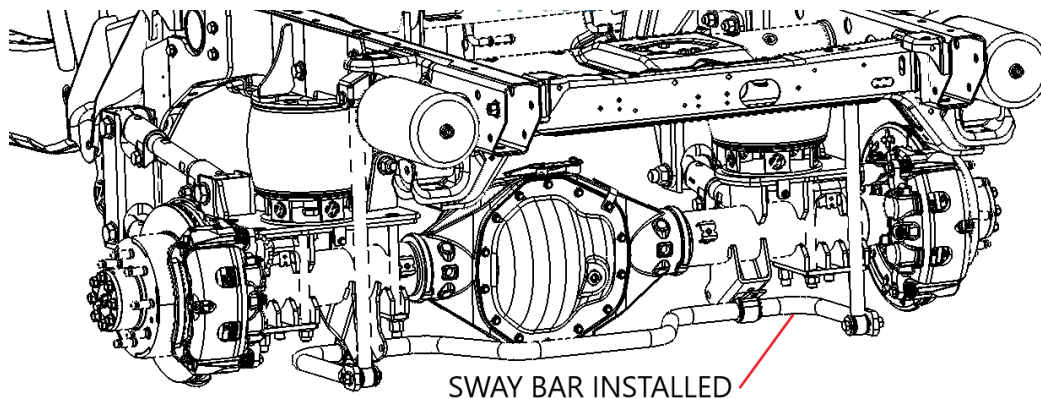

Figure 28
- 17:** Locate the sway bar P/N 80259, mounting clamps P/N 80271, sway bar bushings P/N 80256, and sway bar end links (**P/N 19238 for stock height, P/N 10006911 for +2"**). The sway bar fastens to the axle in the factory location, if equipped, on the shock mounts. If your truck did not come with a factory sway bar, you will need to tap the factory weld nuts to 3/8"-24 to mount the mounting clamps to the axle. If your truck came with a factory sway bar, use the factory bolts to mount the new clamps. The upper end of the end links mount to the pockets in the upper bag mounts with 1/2" x 3" bolts. The lower end of the end links attach to the frame with 1/2" x 3" bolts as well, be sure to use the large machined washer on the bolt head, P/N 11551. Use the supplied grease between the sway bar and the sway bar bushings to prevent squeaking. See figure 28 and 29.